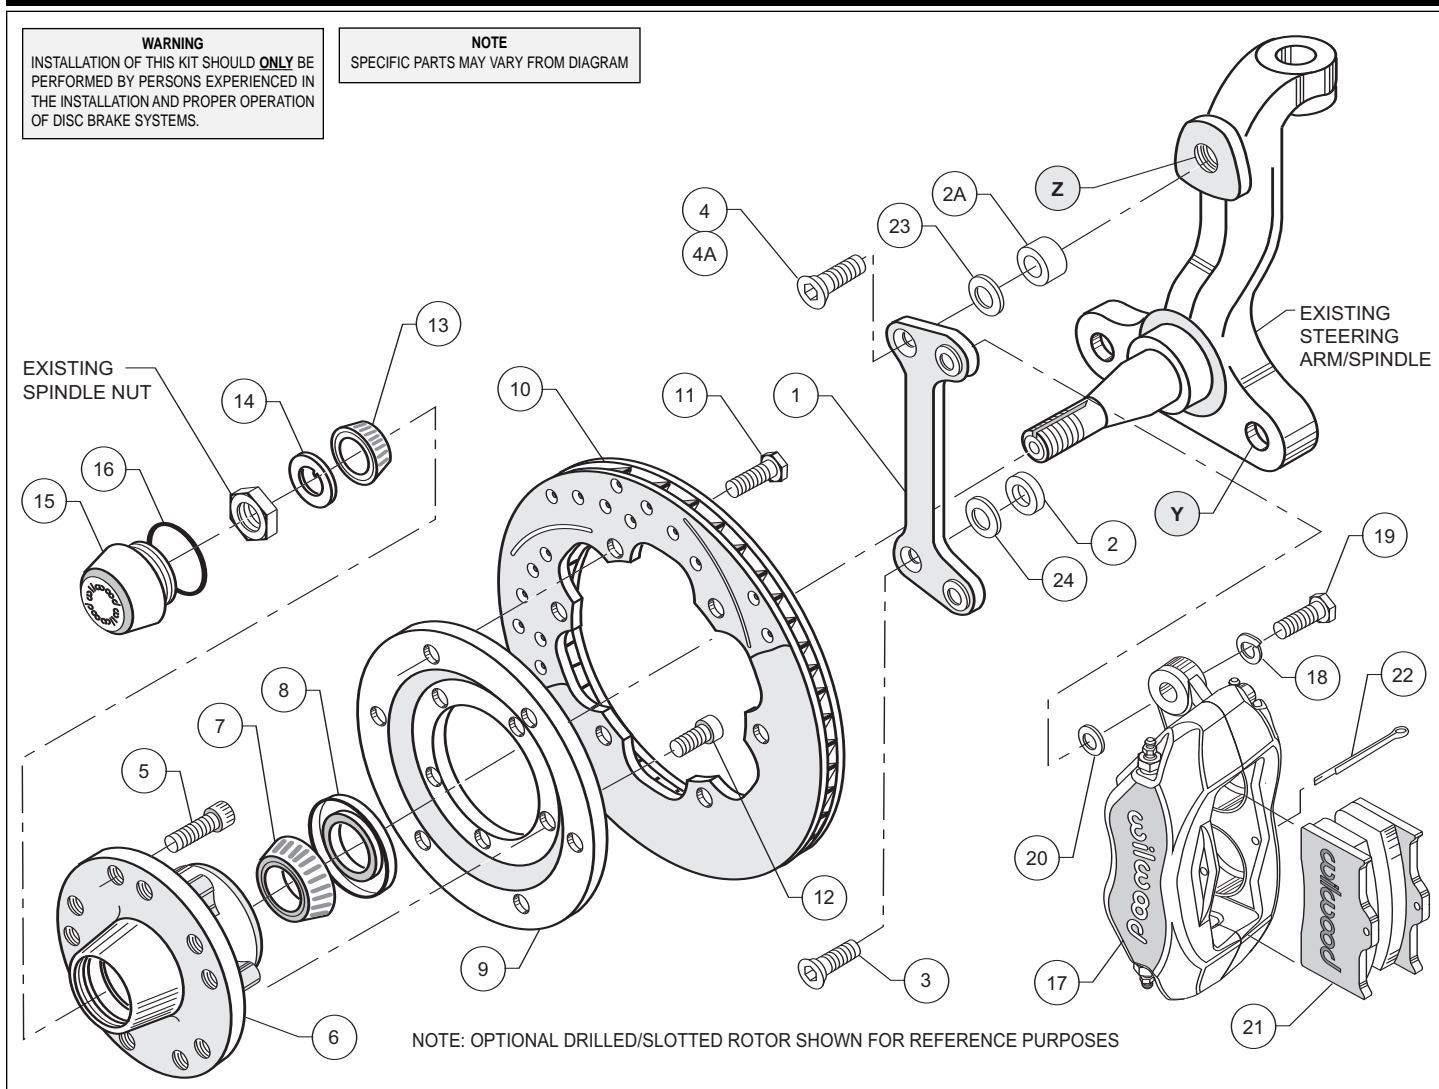
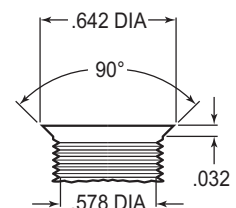
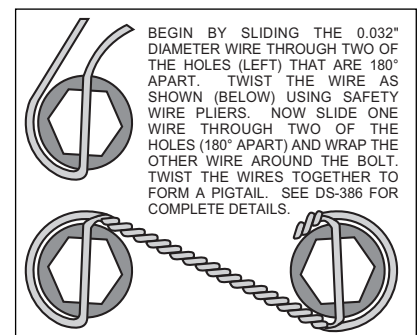

Figure 1. Typical Installation Configuration
Figure 3. Drill and Tap Detail
Figure 4. Safety Wire Diagram
•**NOTE:** 1964-66 spindles may require the following modifications (reference Figure 1 and Figure 3): Top anchor pin hole (Z) must be drilled and tapped to the dimensions as outlined in Figure 3. Bottom rear steering arm bolt hole (Y) in the spindle and steering arm must be enlarged to .50" by drilling. A 1/2-20 backing nut (not supplied in kit) will need to be acquired to torque bracket / steering arm bolt (supplied in kit).
•Apply red *Loctite*® 271 to bolt threads (3 and 4, or 4A for disc spindle application) before assembly of the caliper mounting bracket (1). Mount bracket (1) to dust face plate of spindle using the bottom bolt (3) while positioning spacer (2) between bracket and spindle face, finger tighten only. Install the upper bolt 4 (or, for disc brake spindle, use 4A with spacer 2A positioned between bracket and top hole of spindle face), torque to 120 ft-lb. Torque bolts (3) to 77 ft-lb. **NOTE:** Be sure the heads of the bracket (1) insert nuts are facing outward toward the wheel. **NOTE:** Because of a tolerance variation among spindles, it may be necessary to install a shim washer (23 and/or 24) between the spacers (2 and/or 2A) and the bracket (1) in order to square the bracket to the rotor.
•Install wheel studs (5) into the hub (6). Torque to 77 ft-lb. **NOTE:** There are two five lug patterns in the hub (5 x 4.50 and 5 x 4.75). Make sure of the correct hole pattern for the correct wheel application before installing studs into hub.
•Pack the large inner bearing cone (7) with high temperature disc brake bearing grease (available from your local auto parts store) and install into the backside of the hub (6).
•Install the grease seal (8) by pressing into the backside of the hub (6).
•Attach rotor adapter plate (9) to rotor (10) using bolts (11). Torque bolts (11) to 180 in-lb. Safety wire bolts (11) using standard 0.032 inch diameter stainless steel safety wire as shown in Figure 4. Please refer to Wilwood's data sheet DS-386 (available at [www.wilwood.org/ds386.pdf](http://www.wilwood.org/ds386.pdf)) for complete safety wire installation instructions. **NOTE:** Dished side of adapter plate (9) should face hub (6). The mounting tabs on the rotor (10) should face toward the hub as well and line up with the holes on the adapter plate (9).
•Mount the adapter/rotor assembly (9 and 10) to the hub (6) using bolts (12). Torque bolts (12) to 22 ft-lb. Safety wire bolts (12).
•Pack the small outer bearing cone (13) with high temperature disc brake bearing grease and install into front of hub (6). Slide the hub/rotor assembly (6 and 10) with outer bearing cone (13) onto the spindle. Secure using spindle washer (14), stock adjusting nut and nut locking device. Adjust bearings per Original Equipment Manufacturer (OEM) specifications.
•Install the dust cap (15) onto the hub (6). Friction created by the o-ring (16) on the dust cap (15) keeps it from unscrewing. The O.D. of the existing spindle washer may be larger than the I.D. of the dust cap (15) not allowing it to seat against the hub face. Some grinding on the washer O.D. may be necessary to clear the I.D. of the dust cap (15).
•**NOTE:** Please reference the caution statement at the beginning of the assembly instructions. With the bleed screws pointing up, mount the caliper (17) onto the caliper bracket (1) using lock washers (18), bolts (19) and caliper spacer (20) positioned between caliper and bracket. Finger tighten. View the rotor (10) through the top opening of the caliper (17). The rotor (10) should be aligned in the center of the caliper (17). If not, adjust the caliper (17) by using 0.032 inch thick shims (20) placed between the caliper mounting bracket (1) and the caliper (17). Finger tighten and recheck alignment. Apply red *Loctite*® 271 to bolt threads (19) and torque to 30 ft-lb. Safety wire caliper bolts (19).
•Install the disc brake pads (21) and secure using cotter pin (22).